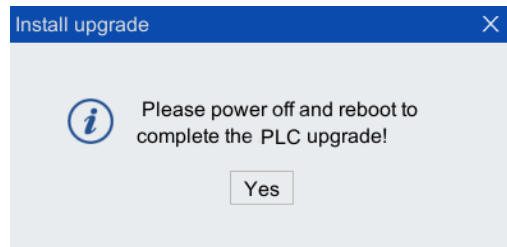

Figure 8-48 Prompt box
Step4.After upgrade, pop up "Please power off and reboot to complete the PLC upgrade!" dialog box in Figure 8-48, click <Yes> button, restart the control cabinet and MF to complete the MF firmware upgrade.